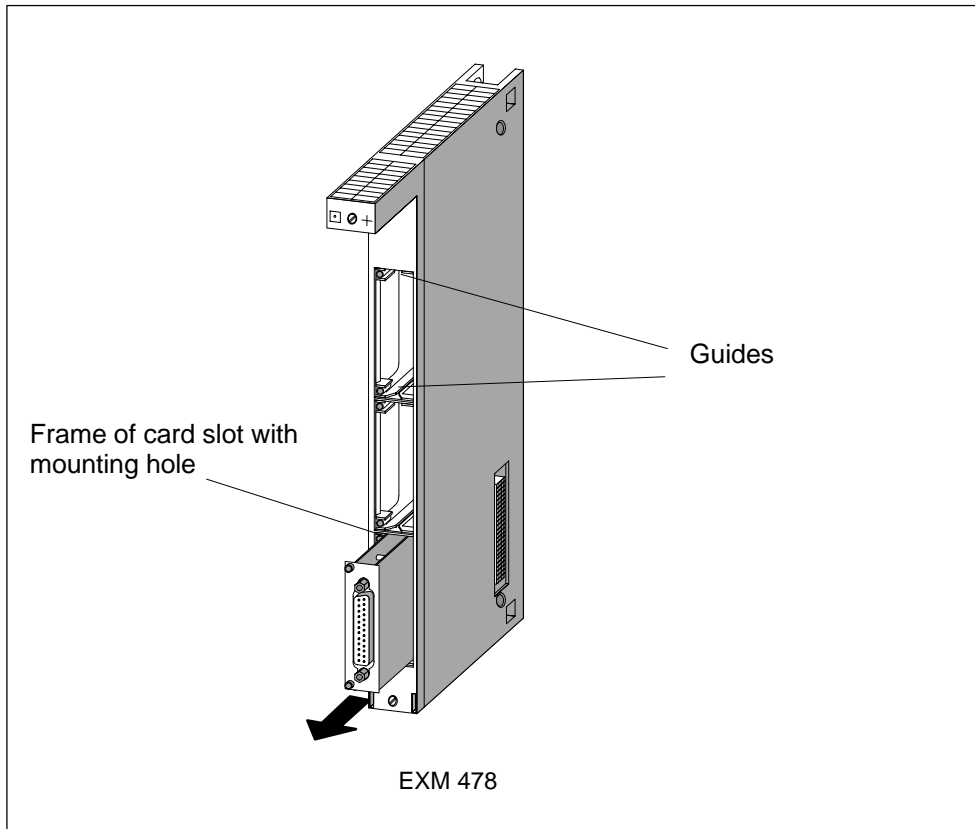

Figure 8-21 Removing an Interface Submodule from the Card Slot of an Expansion Module
6. Carefully withdraw the interface submodule from the guide of the card slot (see Figure 8-21).